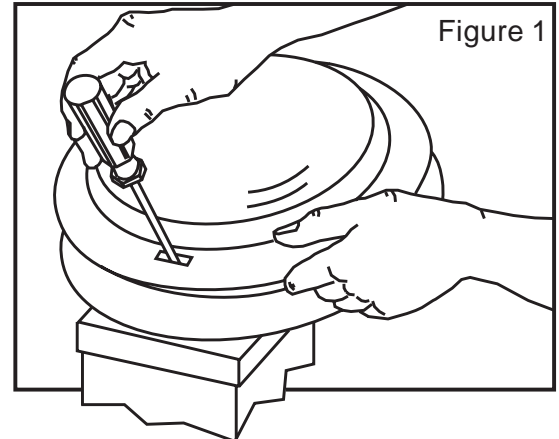

Figure 1
- Gently push the handle of the screwdriver towards the front of the unit, while rotating the lid counterclockwise about an eighth of a turn as shown in Figure 1.